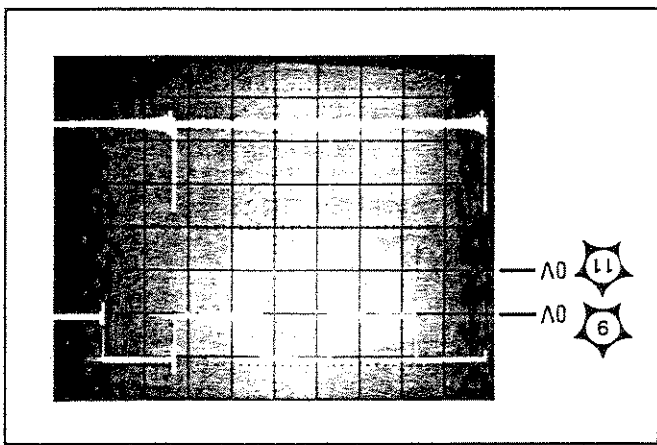

Figure 15. Pulse Input (A1TP9, 5V per division) vs. Waveform at A1TP11 (0.5V per division).
e. If the rise time is out of specification, use waveforms (Figures 15 and 16) to troubleshoot U5, Q5, and Q6.